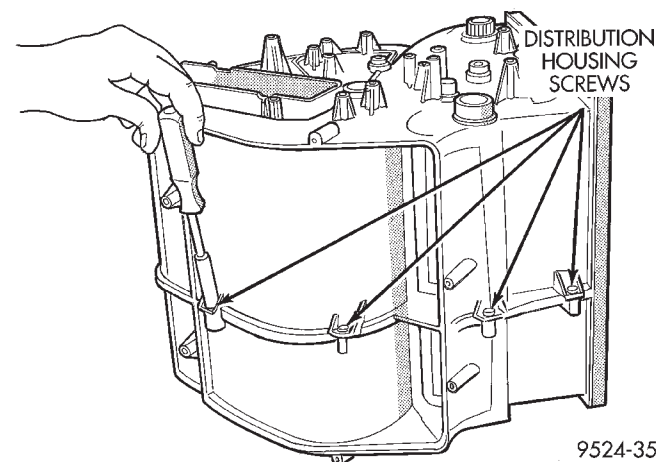

Fig. 69 Distribution Housing Half Screws
(16) Remove distribution housing half screws (Fig. 69).